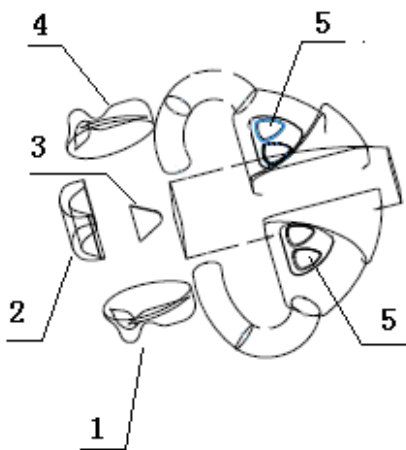

Fig 2
- In case of a malfunction, push the safety emergency switch(No.2,fig.2) on the speed regulator (No.4, fig.2)
1) Speed regulator (No.4 , fig 2)
When the smart tow tractor close to the object, If you don't want turn the butterfly speed knob by power operation, you can release the butterfly speed knob,and move the smart tow tractor a short distance, then press down any botton or tow buttons (No.5,fig2) ,push or drag the machine by manual operation. so that moving the machine is easy.
2) Safety emergency switch (No.2 , fig 2)
6) When the smart tow tractor close to the object, If you don't want turn the butterfly speed knob by power operation, you can release the butterfly speed knob and more the smart tow tractor a short distance then press down any button or tow buttons (No.5,fig2) so that push or drag the machine easy by manual operation.